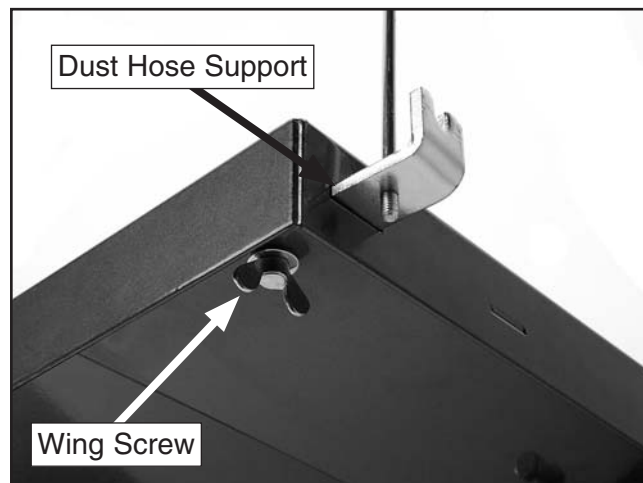

Figure 32. Dust hose support attached.
28. Connect the dust hose support to the underside of the extension table with the wing screw (**Figure 32**).